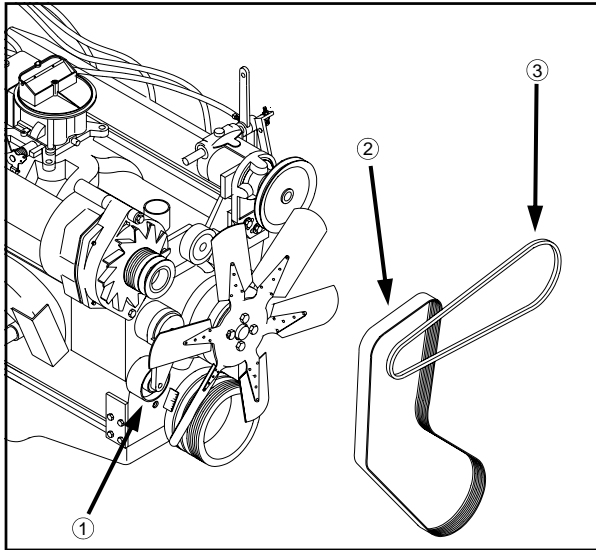

FIG 7.56
**REMOVAL** – Insert a 3/8 inch square ratchet drive into the belt tensioner (fig. 7.56, item 1) and push inward to remove the belt (fig. 7.56, item 2).
Visually inspect the belt daily (fig. 7.56, item 3). Replace if it becomes cracked or worn.